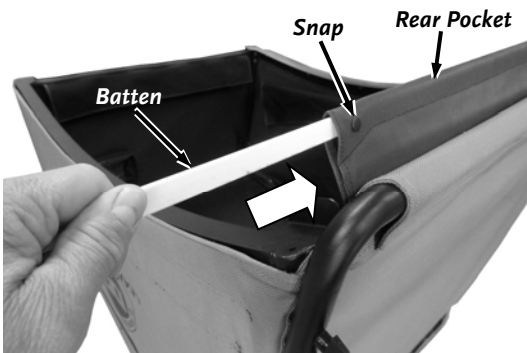

Figure 41
5. Install the Batten into the Snap End of the Rear Pocket and secure the Snap (**Figure 41**).